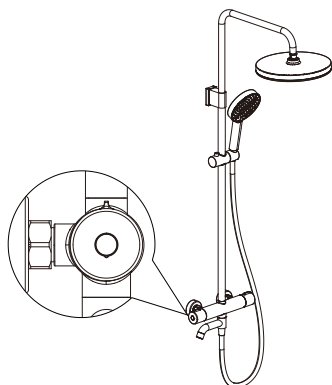

Figure 14A
- ① When the handwheel horizontal bar is facing upward, the product is in the closed state, as shown in Figure 14A.